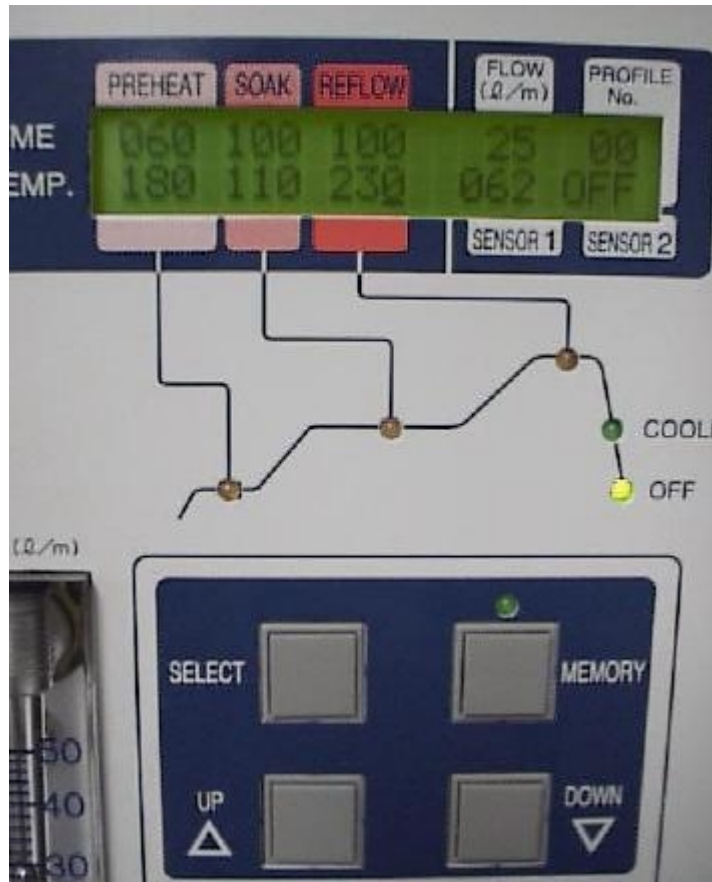

Figure 20: LCD Display and UP and DOWN Buttons
- b) Press the “UP” or “DOWN” buttons to change the selected field. Numeric values change by increments of 2 for each press of the “UP” or “DOWN” button. See Figure 20.